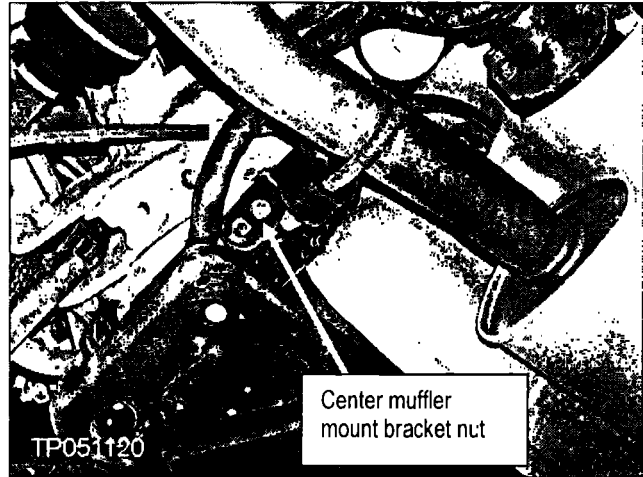

Figure 5
9. Remove the nut that holds the center muffler mount bracket (see Figure 5).